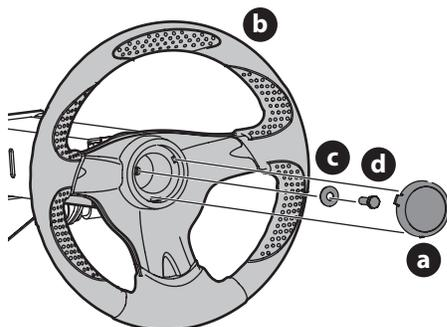

Figure 6
- Remove the hardware for attaching the steering wheel from beneath the steering wheel cap (a). Carefully pry off the steering wheel cap (a) to remove the hardware (Figure 6).
- With the wheels of the machine pointing straight forward, place the steering wheel (b) over the steering shaft (Figure 6).
- Place the Belleville washer (c) over the steering wheel (b) and secure with the hex lock screw (d) (Figure 6).